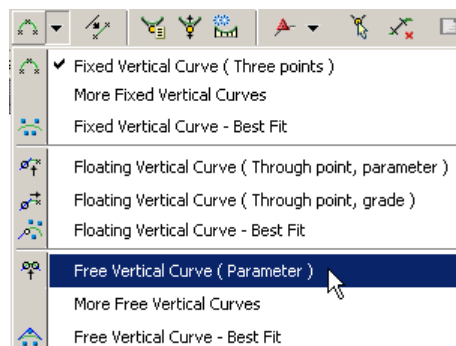

Figure 6-48 Invoking the **Free Vertical Curve (Parameter)** tool
1. Choose the down arrow on the left of the **Draw fixed parabola by three points** tool and choose the **Free Vertical Curve (Parameter)** tool from the flyout, as shown in Figure 6-48.